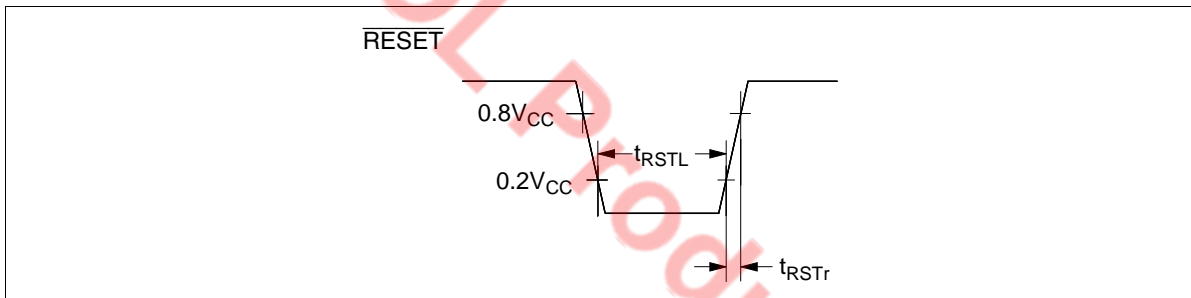

Figure 79 RESET Timing
- Refer to figure 79.
4. Refer to figure 79.